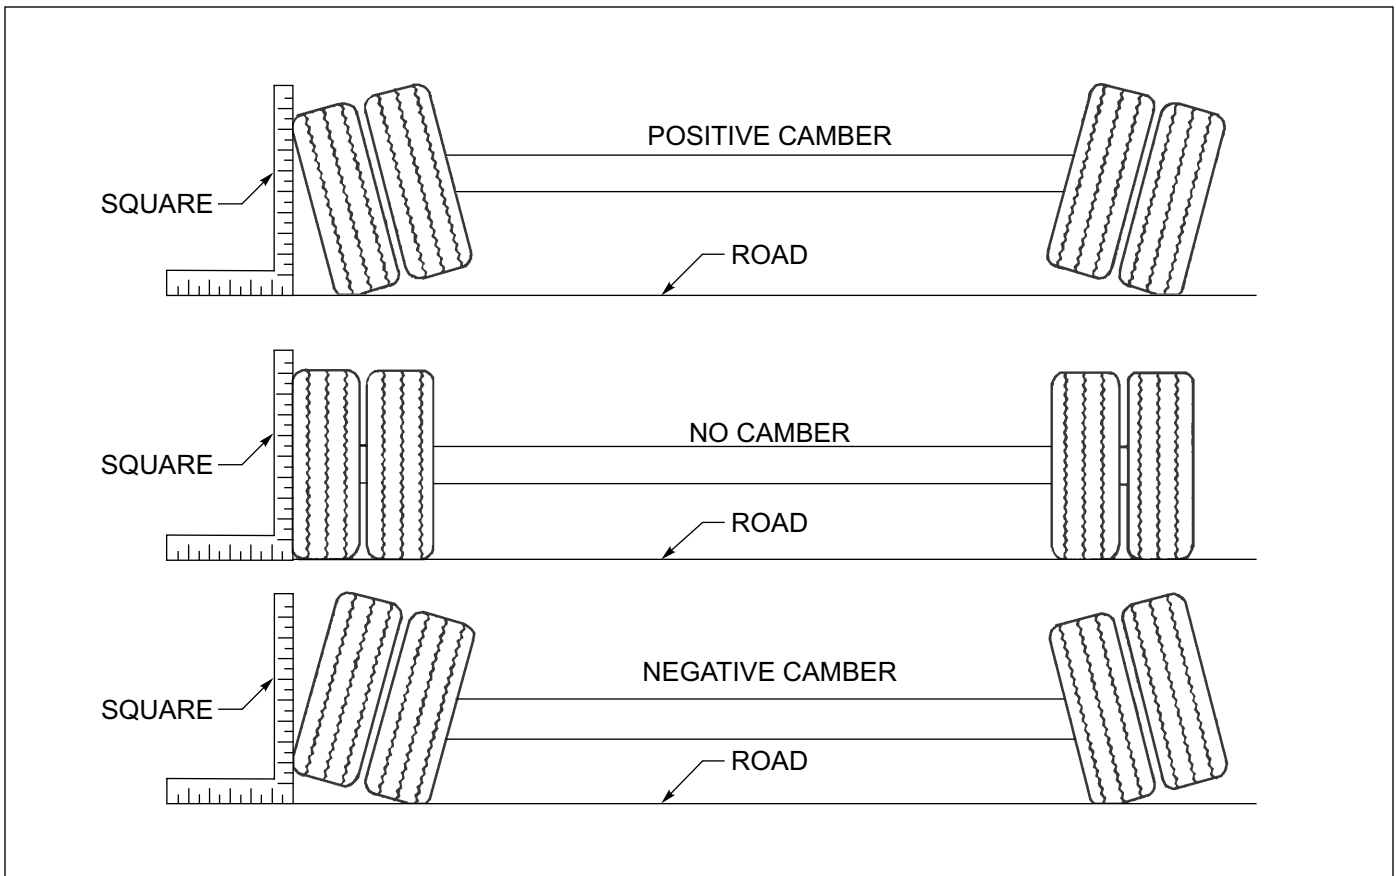

Figure 4-10: Examples of Camber
4. Follow the same procedures as in **steps 2 and 3**, except place the axle gauge above and below the axle. If gauge point gap is found, the axle has positive or negative camber. The trailer axle has no camber from the factory. If it is found to have positive or negative camber, axle replacement is necessary for examples of camber **(See Figure 4-10.)**